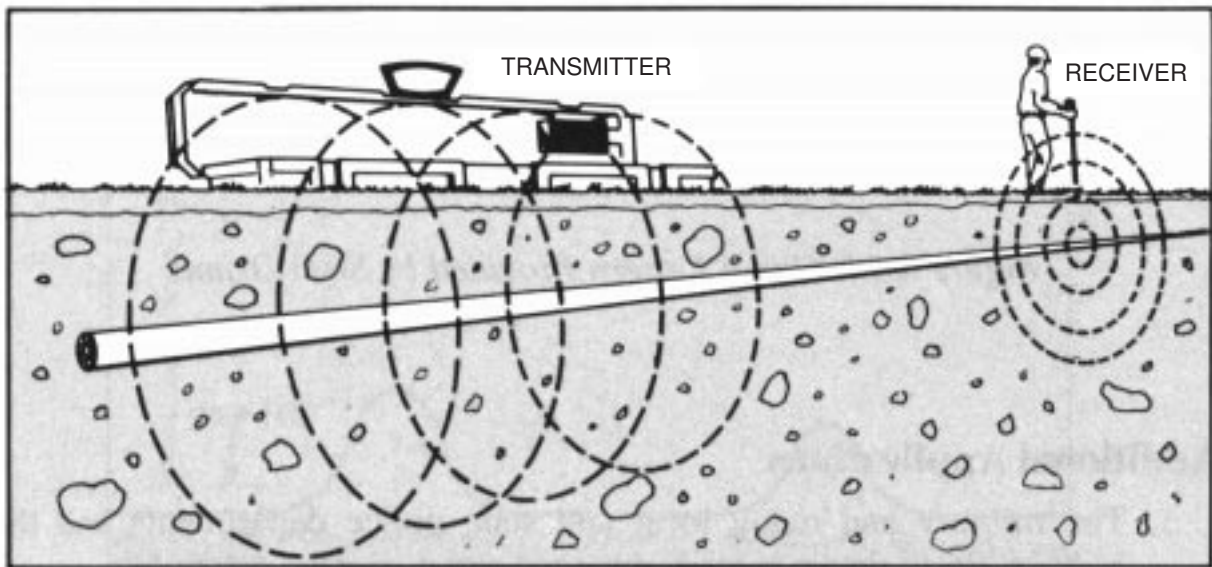

Figure 4-1. Transmitter and Receiver Placement
As illustrated in Figure 4-1, the transmitter is placed over and in line with any continuous metal conductor. Its two simultaneous output frequencies (HF and LF) produce alternating currents that are induced (HF) and conducted (LF), onto the conductor as tracing signals. The transmitter emits a steady beeping sound to let you know that it is operating. You can detect the two tracing signals by using the receiver's HI or LO mode. The receiver emits a siren-like sound in both modes that decreases to a minimum pitch when the locator's tip is directly over the target conductor, and peaks on each side.